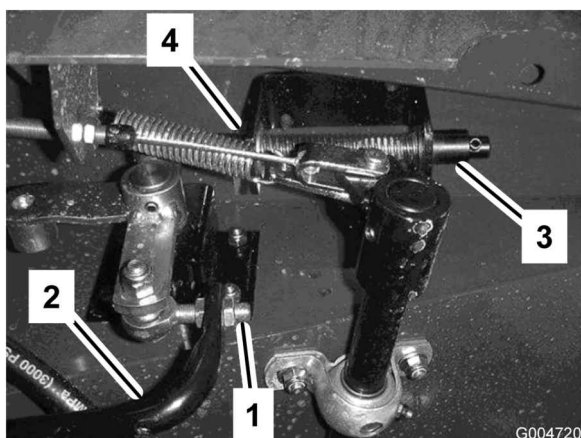

Figure 69
3. Loosen the jam nuts on the rod end and adjust the traction rod length (Figure 69) so that the pedal contacts the pedal stop when the pump lever reaches full stroke. Secure the jam nuts.
3. Fill the reservoir (Figure 69) with approximately 8 gallons (30 l) of hydraulic fluid; refer to Checking the Hydraulic Fluid.